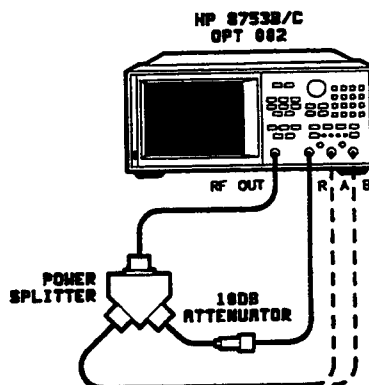

Figure 30. Receiver Harmonics Test Setup
12. Connect the equipment as shown in Figure 30, with the cable connection to input B. Press **[SYSTEM] [HARMONIC MEAS] [OFF]**. On the analyzer, press **[STOP] [1] [.] [5] [G/n]**.